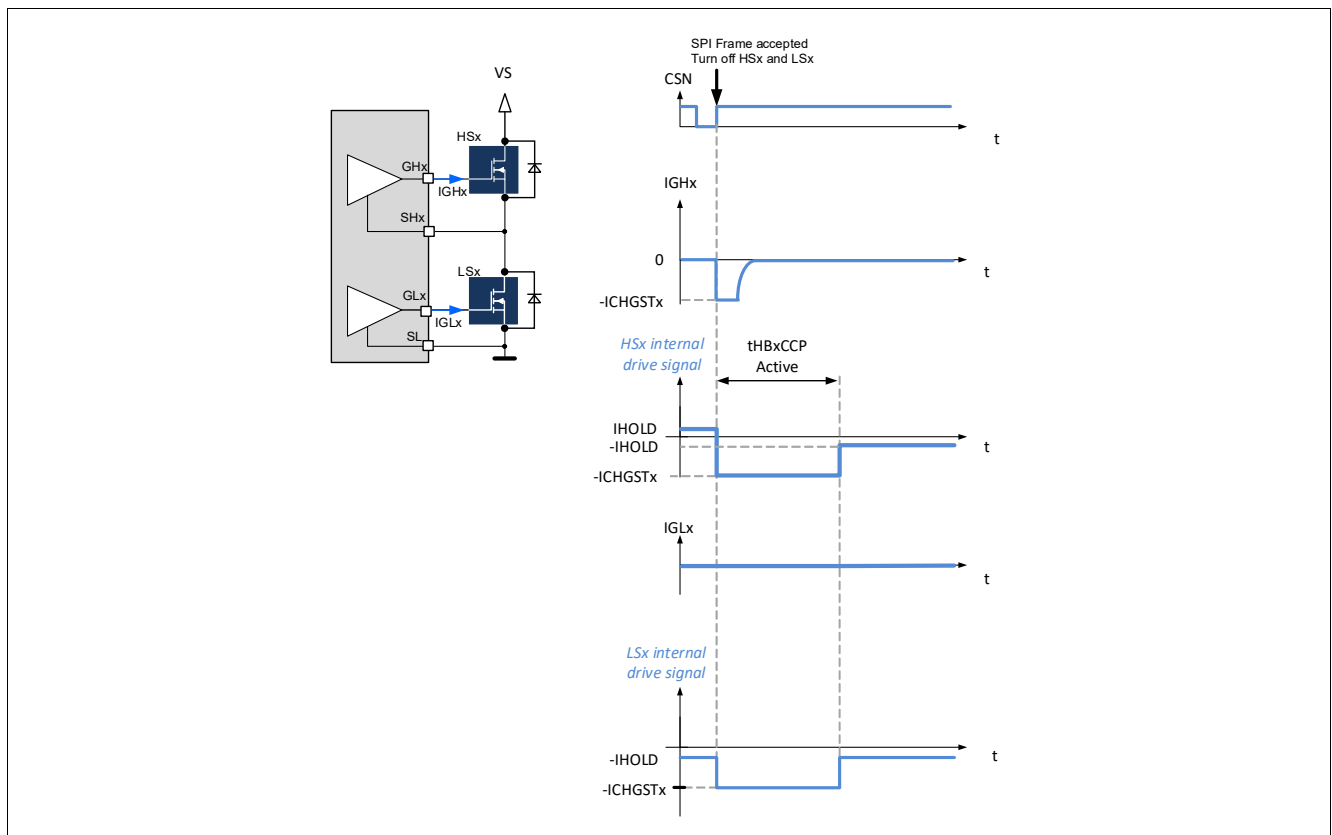

Figure 44 Turn-off of the high-side and low-side MOSFETs of a half-bridge
- The gate of HSx and LSx are discharged with the current -ICHGSTx for the duration $t_{HBxCCP ACTIVE}$ (Figure 44).